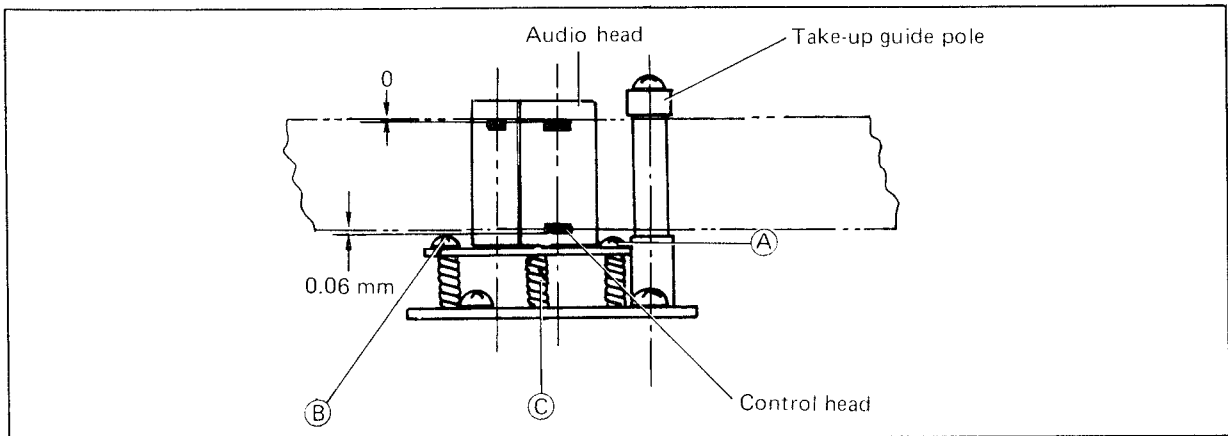

Fig. 5-20
The normalized tape travel is shown in Fig. 5-20.
5. Adjust the screw (A),(B),(C) for the playback signal at TP-15 to be maximum.
6. After adjustment, verify the head height as shown in Fig. 5-20. And also, check for smooth tape traveling.